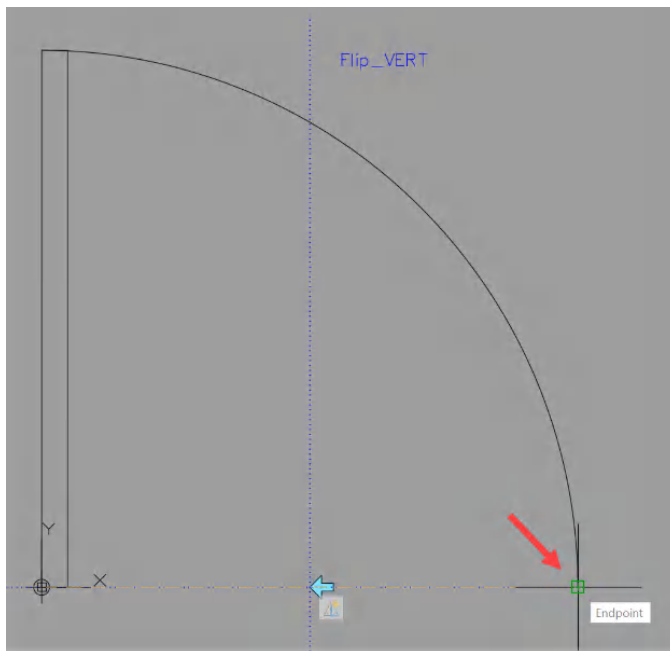

Figure 11.20: The second point of the horizontal reflection line
3. At the prompt for the second point of the reflection line, click on the lower-right **Endpoint** object snap of the arc, as shown in *Figure 11.20*.